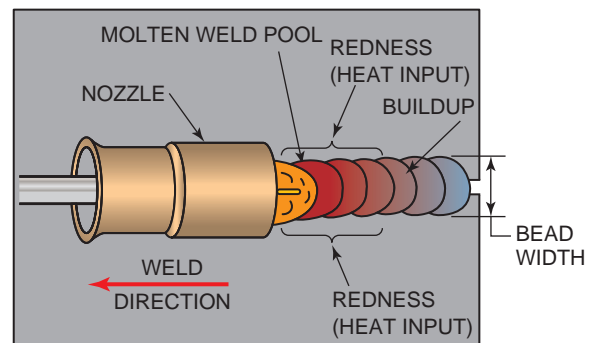

FIGURE 13-18 The backhand welding technique allows a clear view of the weld buildup but may block the view of the weld joint.
- *Joint following*—it is harder to follow the joint because of your hand position; with the FCAW gun positioned over the joint, you may wander from the seam, Figure 13-18.